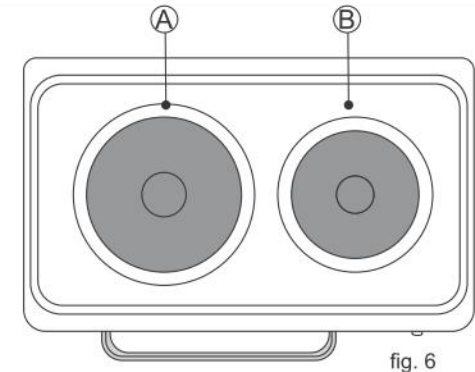
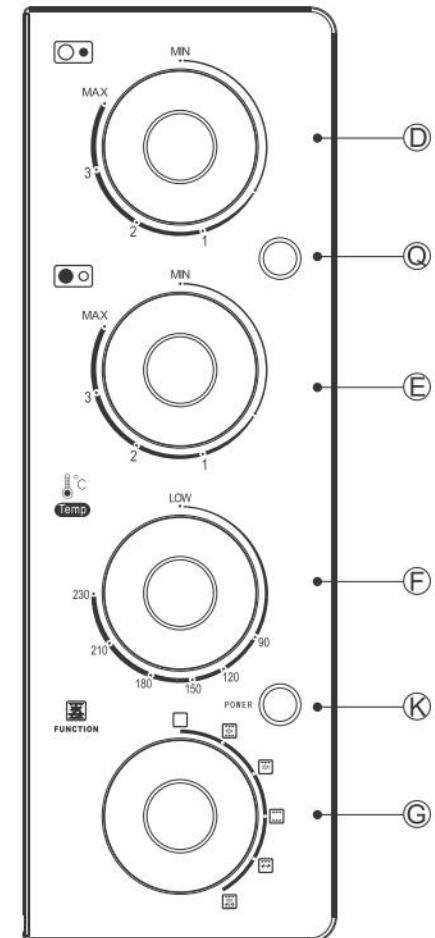

fig. 6
fig. 7
**See fig. 6 and 7.**
2. The Hotplate Power Indicator (Q) will light up when a hotplate is on.
**See fig. 7.**